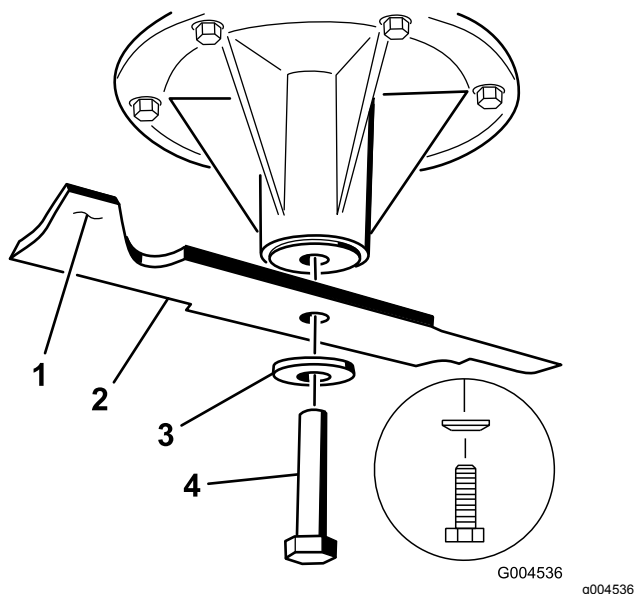

Figure 101
1. Install the blade onto the spindle shaft (Figure 101).
2. Install the spring disk and blade bolt (Figure 101).
Note: The spring-disk cone must be installed toward the bolt head (Figure 101).